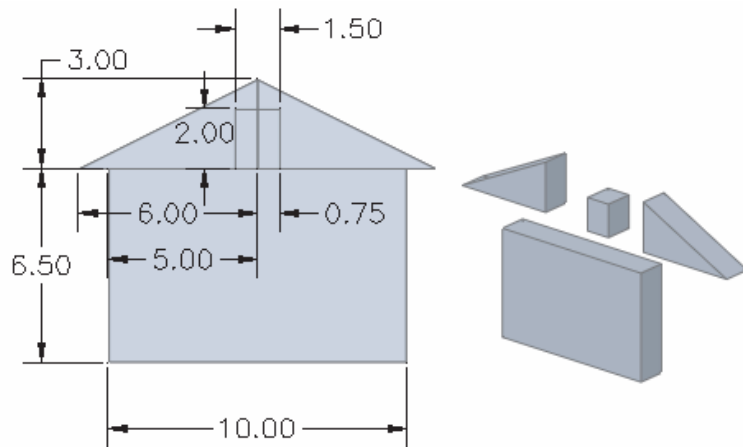

Figure 2–32
3. Create the solid primitives shown in Figure 2–33 with a depth of **2**.
4. Create an array of cylinders with the diameter shown in Figure 2–34. Draw the first one on the left and array them **180** degrees around the center of the large cylinder. Erase the two that intersect the box. Union all of the pieces, except for the small cylinders. Do not subtract the small cylinders.